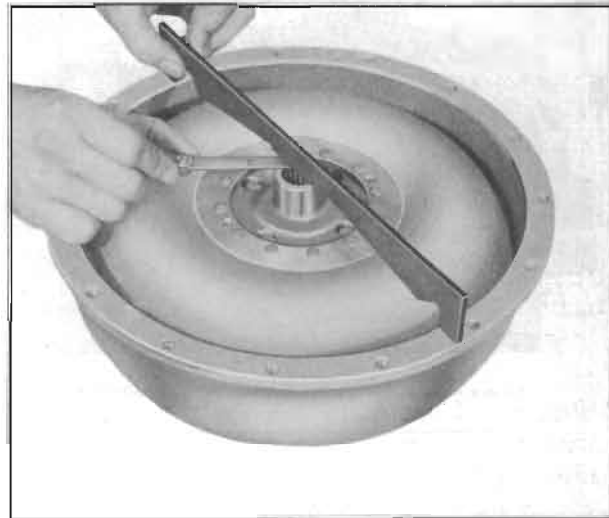

Figure 4-149—Checking Primary Pump and Turbine with Clearance Gauge
5. Place stators and turbine in normal position in primary pump, and place clearance gauge bar on flange of pump, between bolt holes. Check clearance between gauge bar and hub of turbine (fig. 4-149) and record this measurement for later use in Step 9.